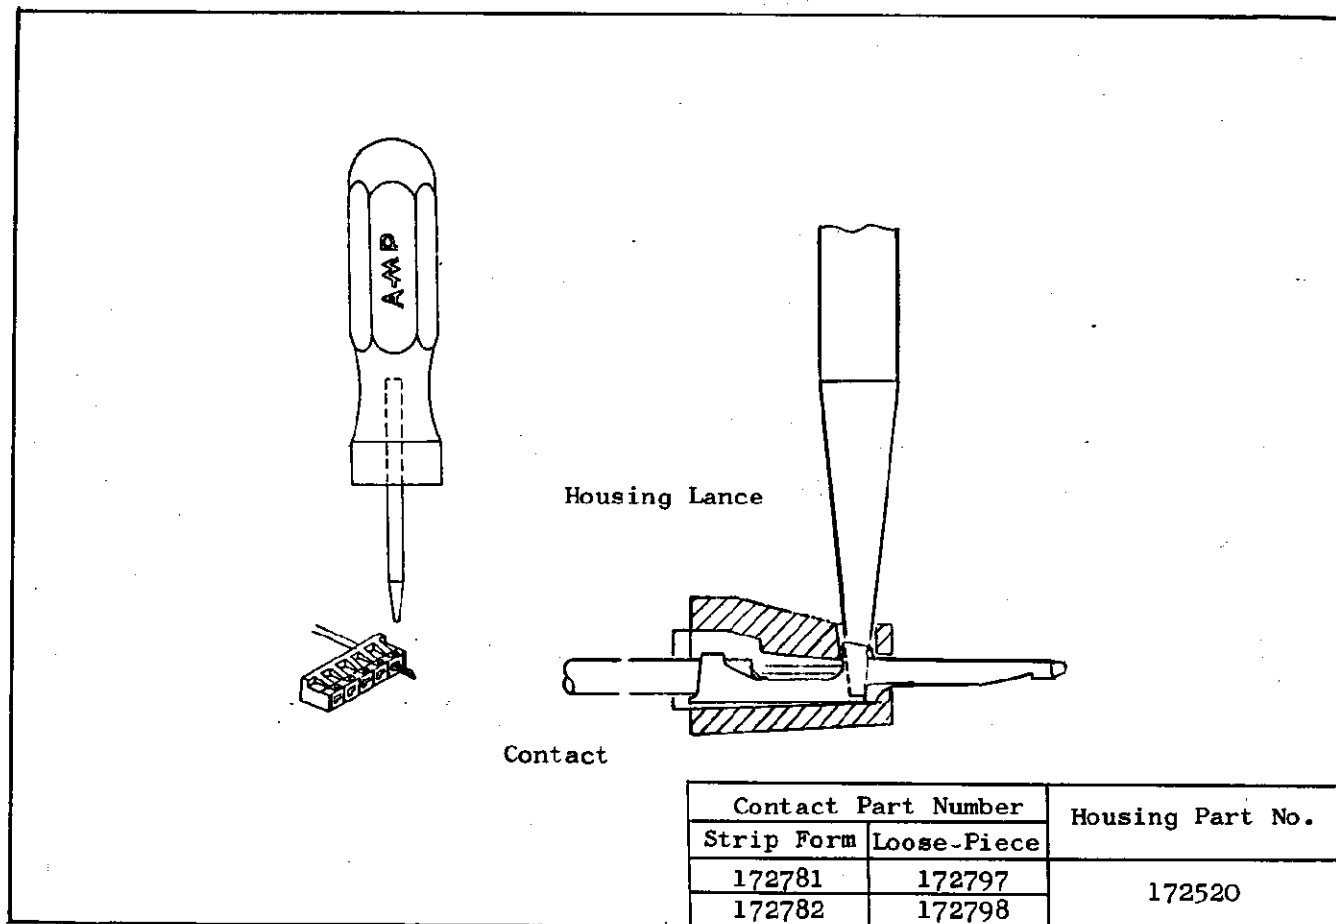

Fig. 1
- (a) Hold the tool as shown in Fig. 1 (left), and apply the tip end of the tool into the groove of housing where the housing lance is provided until it bottoms in the groove. (See Fig. 1, (right)).
- (b) With the tip end of the tool bottomed in the groove, turn lightly to incline the tool grip, so as to dig up with the tip end. This will unlock the contact, and it can be removed easily by pulling the crimped wire lightly by the fingers. (See Fig. 1.)